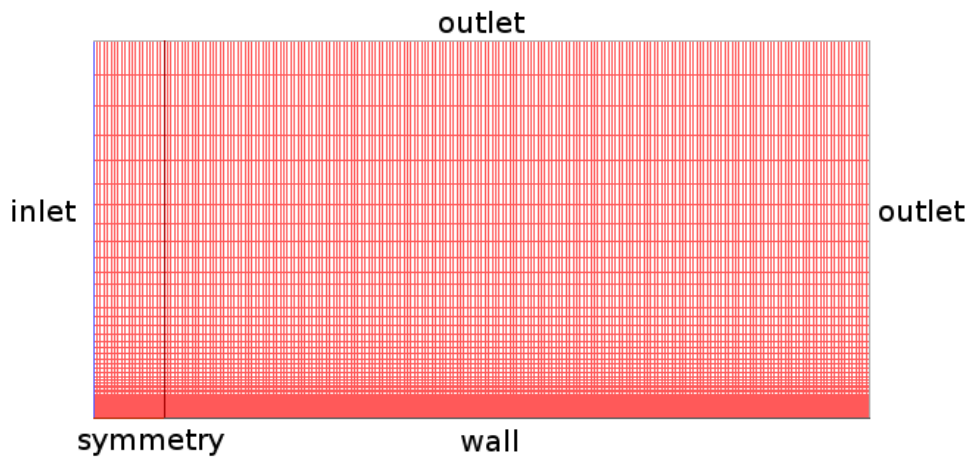

Figure 3.2: Grid Display
4. Display the grid (Figure 3.2).